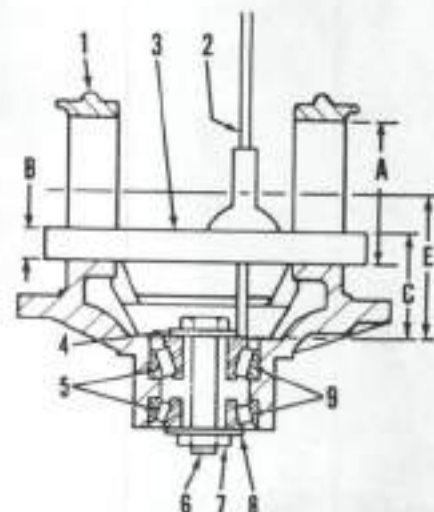

Fig. 27—Diagram showing method of securing pinion bearings in support housing to allow depth gage measurement to be taken.
35. PINION SHAFT PROTRUSION AND BEARING PRELOAD. To set pinion shaft protrusion, install bearing cups and cones in carrier housing. Use a bolt, washers and nut as shown in Fig. 27 to hold bearing cones in place. Tighten bolt and nut until bearing cones are difficult to turn.
Install carrier bearing caps (1—Fig. 27) on carrier housing and tighten nuts to 205 N·m (150 ft.-lbs.) torque. Measure and record diameter of bearing bore (A). Place a shaft (3), having a diameter of at least 25 mm (1 inch) and having a cross hole drilled through it, across bearing bores as shown in Fig. 27. Measure and record diameter (B) of shaft. Using a depth gage measure from top of shaft to face of inner bearing cone (Fig. 28) and record measurement (C—Fig. 27).
To determine correct thickness of shims (11—Fig. 25) required to obtain desired shaft protrusion, use the following calculations: Subtract diameter of shaft (B—Fig. 27) from depth gage measurement (C). Add this figure to one-half the diameter of carrier bearing bore (A). The result is dimension (E). Then subtract dimension etched on pinion shaft gear face (dimension is in millimeters) from dimension (E). The resulting dimension will be correct shim (11—Fig. 25) thickness to install to properly set pinion shaft protrusion.